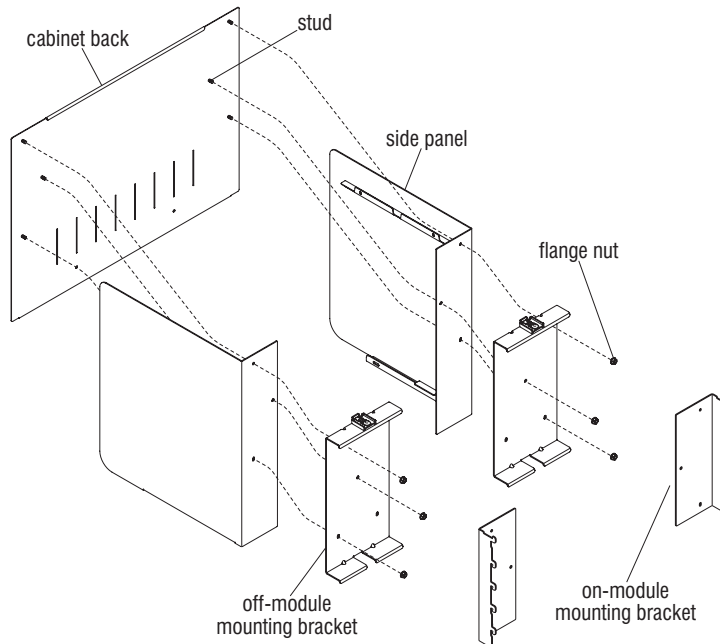

Figure 1
1. Assemble the cabinet back, side panels and mounting brackets (off-module or on-module) together by inserting the holes in the side panels (with support flanges facing inward) and mounting brackets through the studs on the cabinet back. Loosely fasten the parts together with six flange nuts as shown. To avoid scratching side panels during bottom shelf assembly (step two), do not tighten flange nuts at this time (Figure 1).